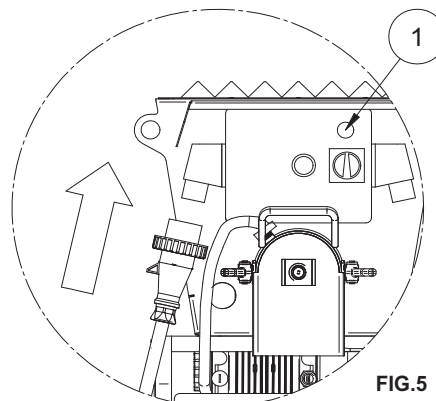

FIG.5
10. CONNECTIONS**10.1 ELECTRICAL CONNECTION (see fig.5)**
Connect the mixer socket on the electrical panel to the mains (fig.5).
When the cable is connected, power up, and the green indicator light illuminates on the electrical panel (ref.1,fig.5) to confirm correct connection of the power supply.